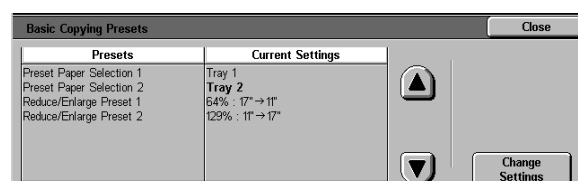

Figure 49: Basic Copying Presets screen
- 2 Touch the **Basic Copying Presets** button to display the Basic Copying Presets screen, as illustrated in Figure 49.